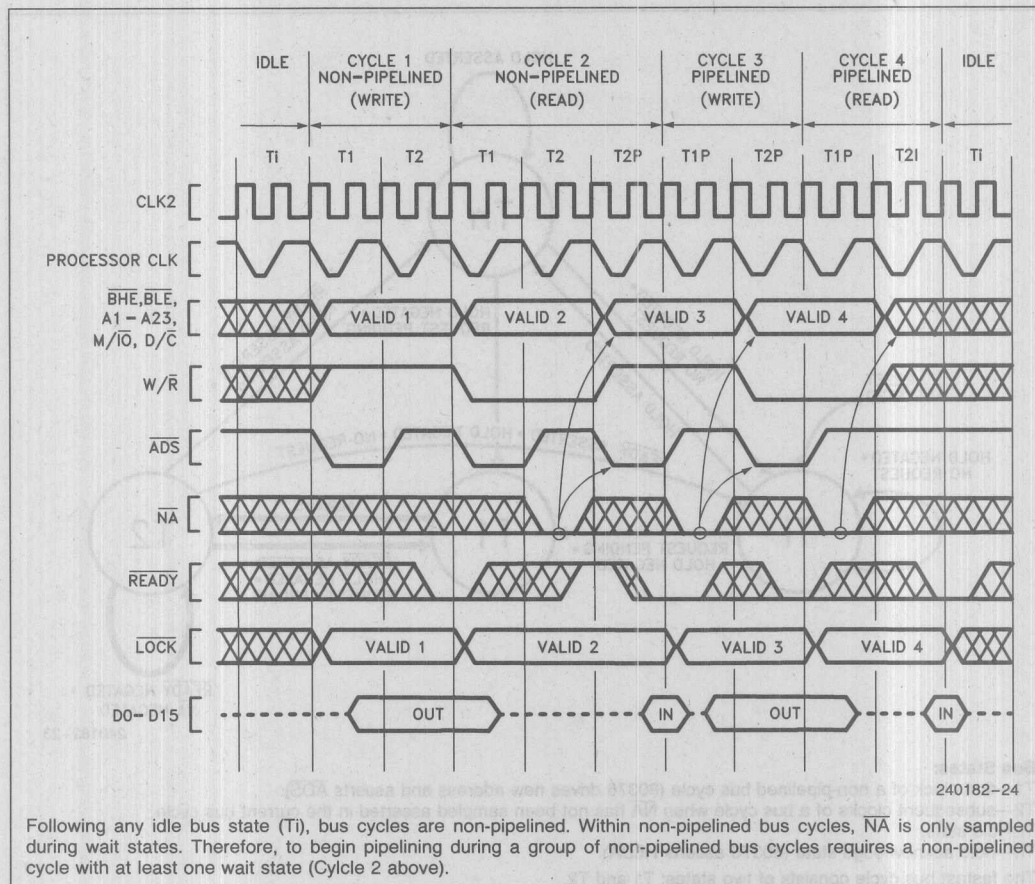
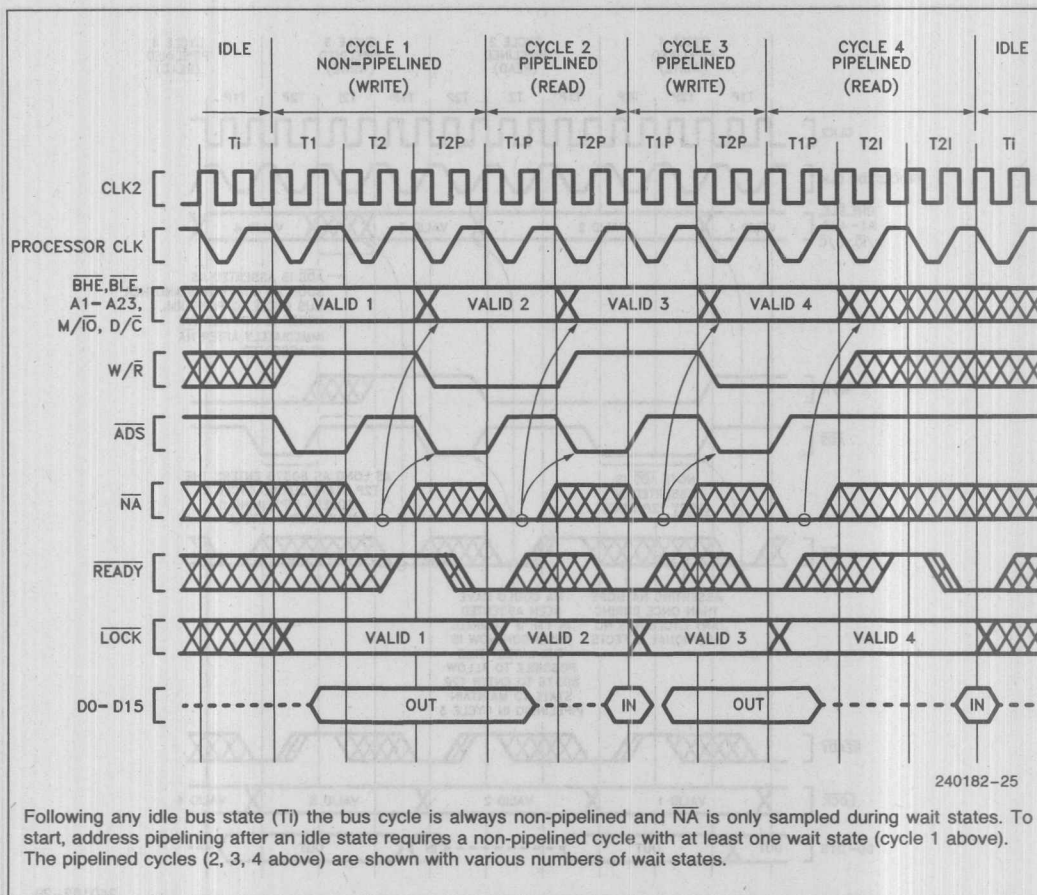

Figure 4.9. Transitioning to Pipelining during Burst of Bus Cycles
Figure 4.10. Fastest Transition to Pipelined Bus Cycle Following Idle Bus State
Once a bus cycle is in progress and the current address has been valid for at least one entire bus state, the \overline{NA} input is sampled at the end of every phase one until the bus cycle is acknowledged. During non-pipelined bus cycles \overline{NA} is sampled at the end of phase one in every T2. An example is Cycle 2 in Figure 4.9, during which \overline{NA} is sampled at the end of phase one of every T2 (it was asserted once during the first T2 and has no further effect during that bus cycle).
1. The next address and status may appear as early as the bus state after \overline{NA} was sampled active (see Figures 4.9 or 4.10). In that case, state T2P is entered immediately. However, when there is not an internal bus request already pending, the next address and status will not be available immediately after \overline{NA} is asserted and T2I is entered instead of T2P (see Figure 4.11 Cycle 3). Provided the current bus cycle isn't yet acknow-
2. Any address and status which are validated by a pulse on the 80376 \overline{ADS} output will remain stable on the address pins for at least two processor clock periods. The 80376 cannot produce a new address and status more frequently than every two processor clock periods (see Figures 4.9, 4.10 and 4.11).
The transition to pipelined address is shown functionally by Figure 4.10, Cycle 1. Note that Cycle 1 is used to transition into pipelined address timing for the subsequent Cycles 2, 3 and 4, which are pipelined. The NA input is asserted at the appropriate time to select address pipelining for Cycles 2, 3 and 4.
Sampling begins in T2 during Cycle 1 in Figure 4.10. Once \overline{NA} is sampled active during the current cycle, the 80376 is free to drive a new address and bus cycle definition on the bus as early as the next bus state. In Figure 4.10, Cycle 1 for example, the next address and status is driven during state T2P. Thus Cycle 1 makes the transition to pipelined timing, since it begins with T1 but ends with T2P. Because the address for Cycle 2 is available before Cycle 2 begins, Cycle 2 is called a pipelined bus cycle, and it begins with T1P. Cycle 2 begins as soon as \overline{READY} asserted terminates Cycle 1.
Examples of transition bus cycles are Figure 4.10, Cycle 1 and Figure 4.9, Cycle 2. Figure 4.10 shows transition during the very first cycle after an idle bus state, which is the fastest possible transition into address pipelining. Figure 4.9, Cycle 2 shows a transition cycle occurring during a burst of bus cycles. In any case, a transition cycle is the same whenever it occurs: it consists at least of T1, T2 (\overline{NA} is asserted at that time), and T2P (provided the 80376 has an internal bus request already pending, which it almost always has). T2P states are repeated if wait states are added to the cycle.
Note that only three states (T1, T2 and T2P) are required in a bus cycle performing a **transition** from non-pipelined into pipelined timing, for example Figure 4.10, Cycle 1. Figure 4.10, Cycles 2, 3 and 4 show that pipelining can be maintained with two-state bus cycles consisting only of T1P and T2P.
Once a pipelined bus cycle is in progress, pipelined timing is maintained for the next cycle by asserting \overline{NA} and detecting that the 80376 enters T2P during the current bus cycle. The current bus cycle must end in state T2P for pipelining to be maintained in the next cycle. T2P is identified by the assertion of \overline{ADS} . Figures 4.9 and 4.10 however, each show